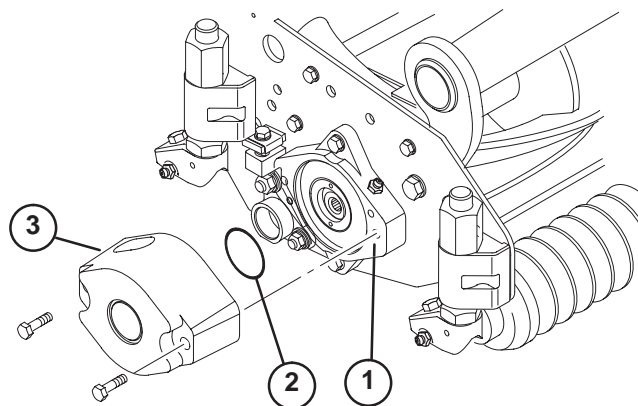

Figure 7
3. Lubricate and install a large O-ring into bearing housing groove on each end of cutting unit (Fig. 7 & 10).
4. Install a counter weight onto appropriate end of each cutting unit with capscrews provided (Fig. 7).